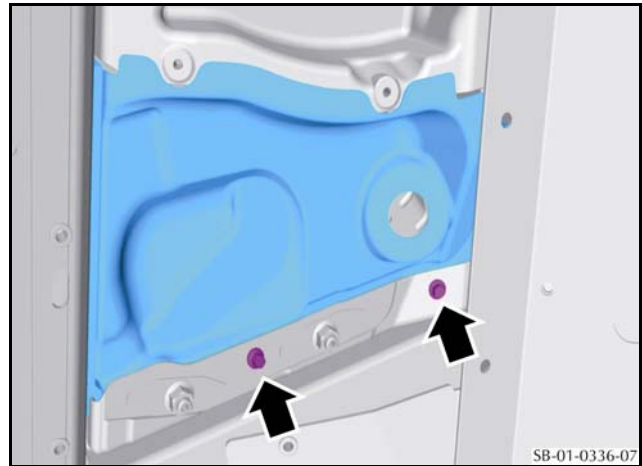

Figure 7
21. Remove the two screws to release the shedder panel (Refer to Figure 7).